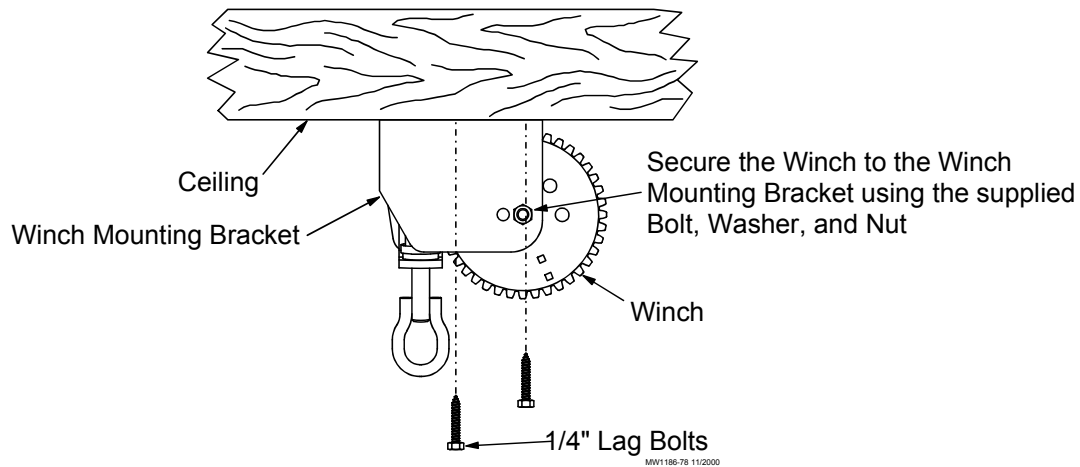

Figure 5. Winch Mounting (side view)
5. Bolt the winch to the bracket, as shown in **Figure 5**.